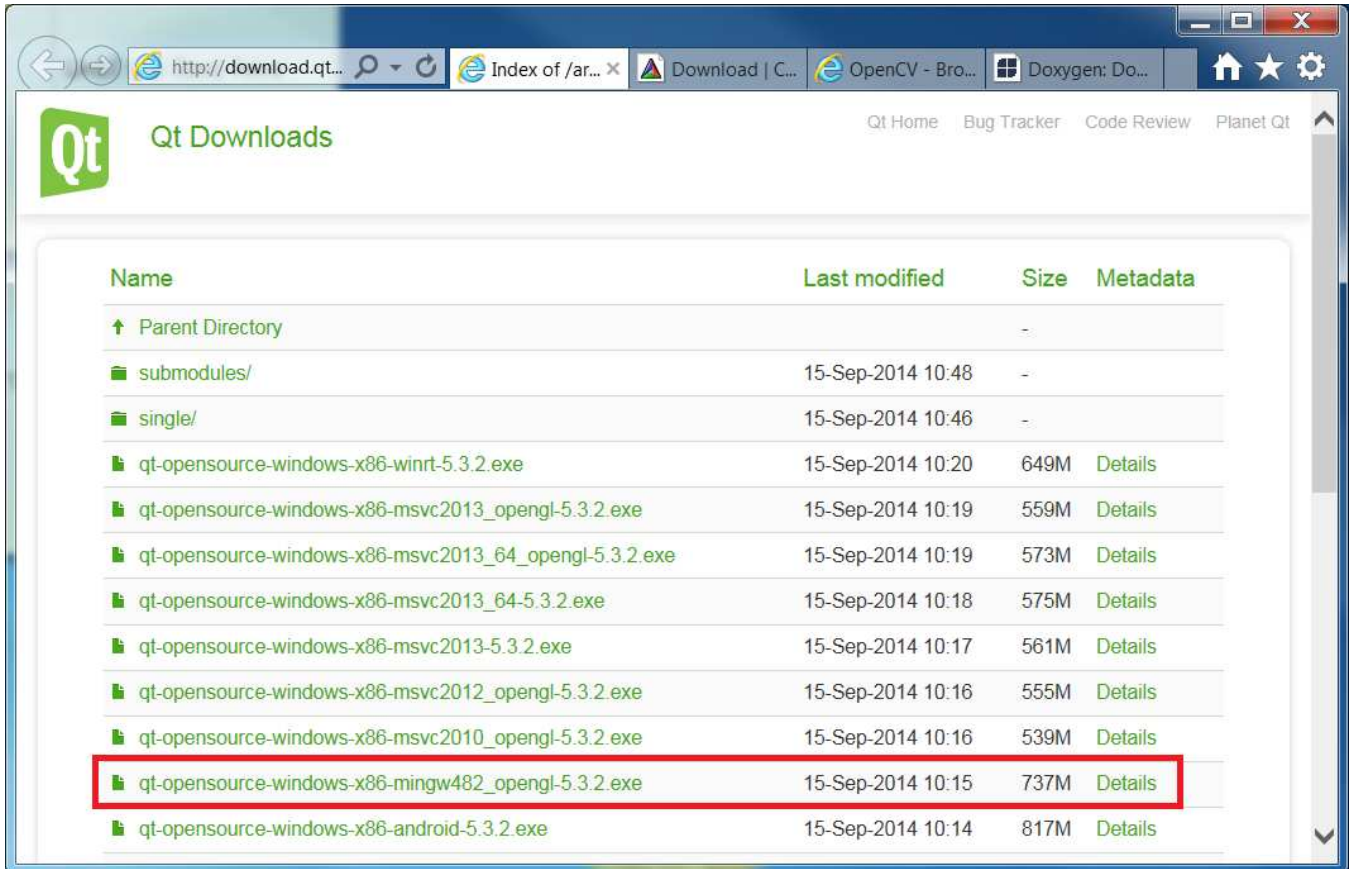

Figure 2. Qt Website
1. Download *qt-opensource-windows-x86-mingw482_opengl-5.3.2.exe* from the link given in Section 1. Figure 2 shows the Qt website and indicates which file to download.